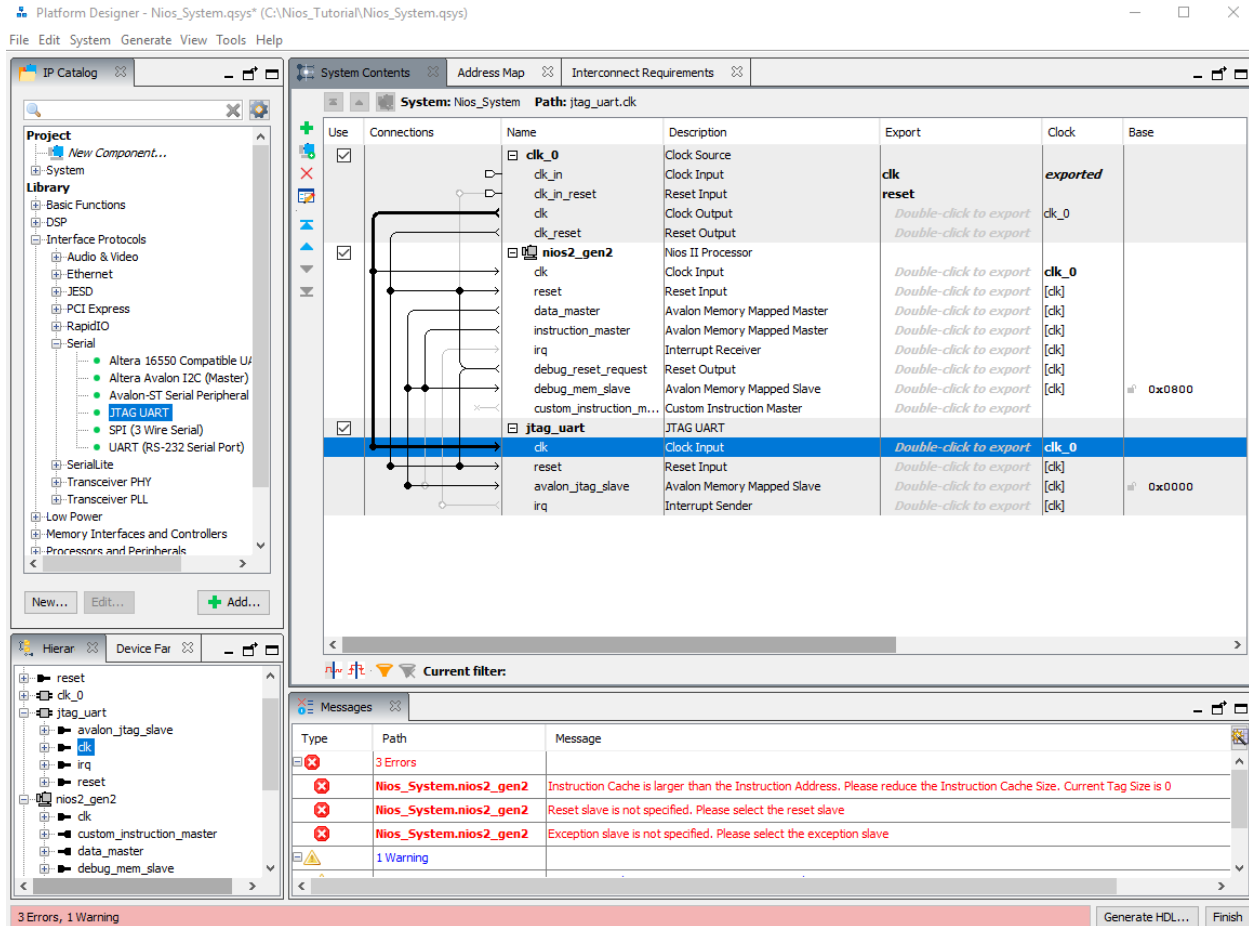

Figure 1-13 Connecting JTAG to system
9.) We will now connect the clk, reset, and data master as shown in Figure 1-13.